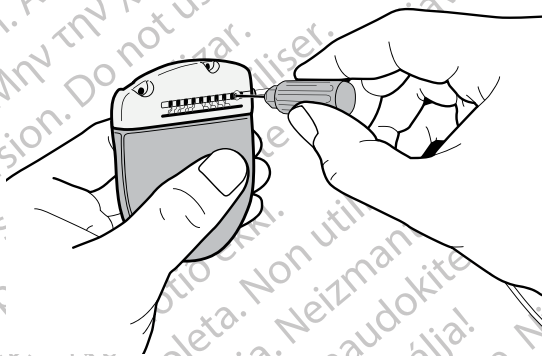

Figure 34. Inserting the Torque Wrench Into the IPG Header
8. Pass the Torque Wrench through the slit in the Septum located on the side of the IPG Header (Figure 34).